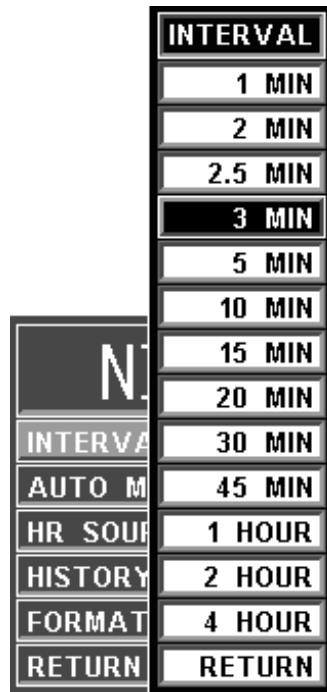

Figure 4-8. The NIBP INTERVAL Menu
- a. **INTERVAL.** Selecting this menu option allows the operator to change the automatic-measurement time interval setting (See Figure 4-8). The options are 1, 2, 2.5, 3 (default), 5, 10, 15, 20, 30 or 45 minutes, and 1, 2 or 4 hours. The **INTERVAL** Menu is also accessed by pressing the **NIBP INTERVAL** key.
- (1) There is a 20-second period in between the measurements to allow for peripheral perfusion.
- (2) As the Rotary Knob turns clockwise, the interval selection will increase. After reaching “**RETURN**,” the interval selection will “roll over” to “**1 MIN**” and continue to increase.
- (3) As the Rotary Knob turns counter-clockwise, the interval selection will decrease. After reaching “**1 MIN**,” the interval selection will “roll over” to “**RETURN**” and continue to decrease.